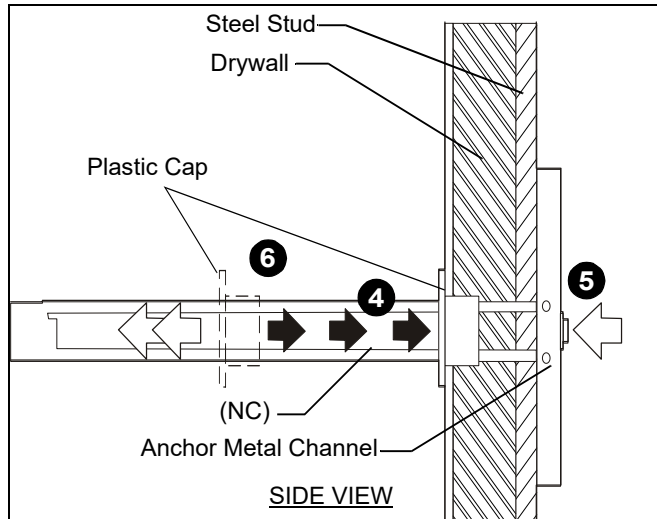

Figure 14
4. Slide anchors (NC) into drilled holes. (See Figure 14)
5. Holding plastic straps on anchor (NC), pull anchor away from wall until channel rests flush behind wall making sure anchor channel is positioned vertically on stud. (See Figure 14)
6. Slide plastic cap on anchor (NC) towards wall until flange of cap is flush with wall. (See Figure 14)
3. Attach components to LeverLock™ backplanes following component manufacturer's instructions. Use cable ties (H) and cable tie clips (L) as needed to safely secure items to panels.
NOTE: LeverLock™ rivets (K) may be used for security if desired. Install in holes shown in Figure 14.